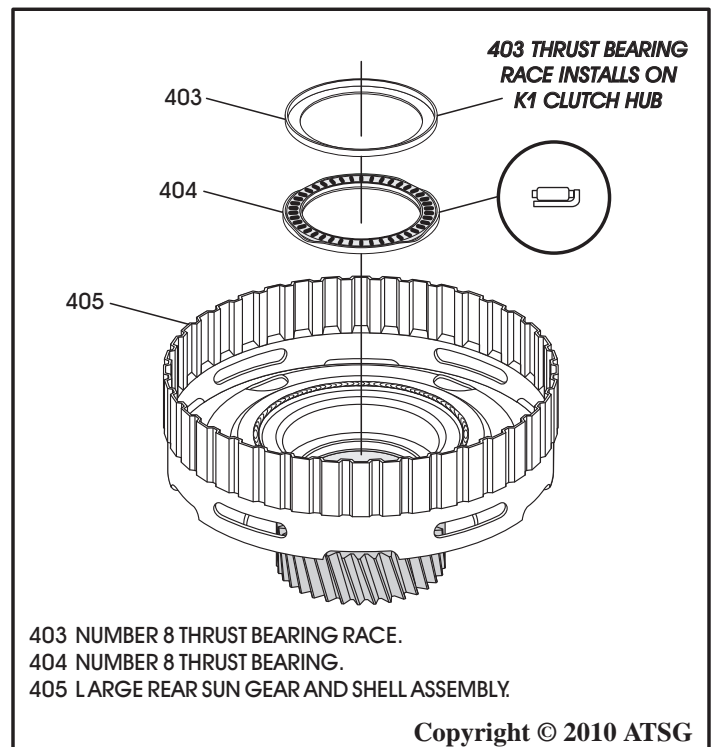

Figure 117
7. Turn sun gear shell over and install number 8 thrust bearing into sun gear shell with needles facing up, as shown in Figure 117, retain with Trans-Jel®.